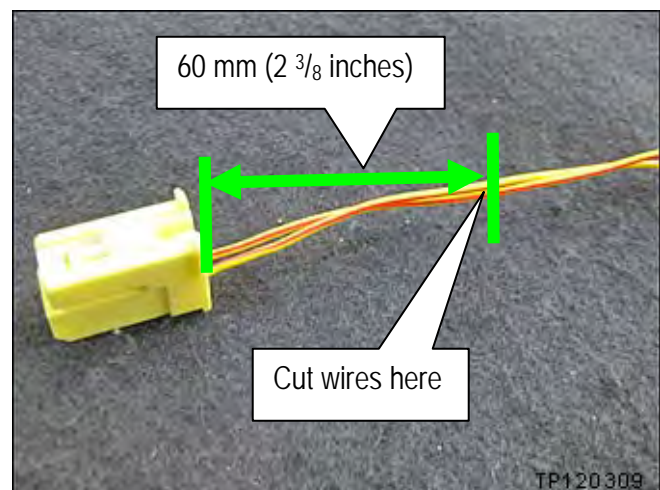

Figure CR26
23. Cut the wires 60 mm (2 3/8 inches) from the back side of the connector as shown in Figure CR26.